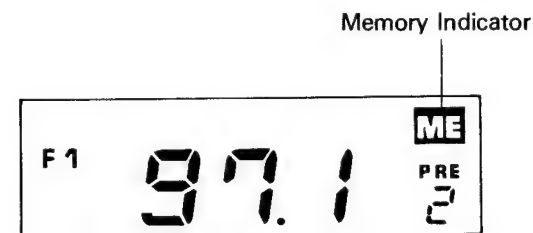

Fig. 8
1. Press Band Select Button ⑬ and Digital Display ⑭ will display FM1.
3. Pulling out the Memory Button ⑩ will cause the Memory Indicator (ME) to appear on the Digital Display ⑭. The Memory Indicator will light up for five seconds, during which time you can select and press the desired Preset Number Button ⑮. (Fig. 8)